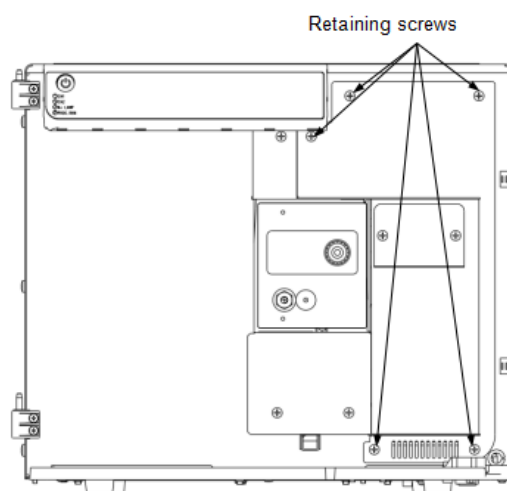

Fig.8-11 Removing the cover of the light source
(1) Replace the mercury lamp
- ① Cut off the power supply and unplug the power cord.
- ② Loosen the four screws securing the light source cover, and remove the cover (Figure 8-11).